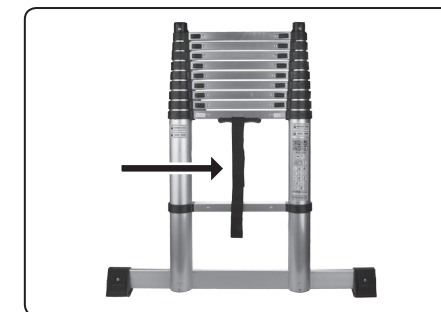

Fig. 3
2. Remove the Velcro zip strap that is securing the ladder (fig. 3).